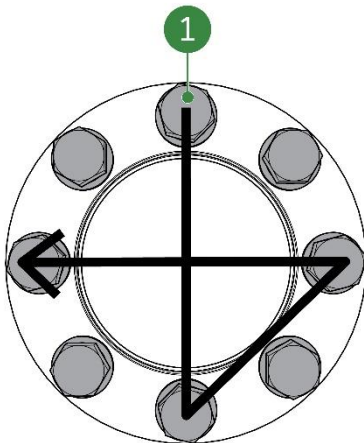

Figure 5-14: Crosswise tightening
9. Tighten the bolts and washers crosswise (Figure 5-14) until 4.2 Nm is reached for each bolt.